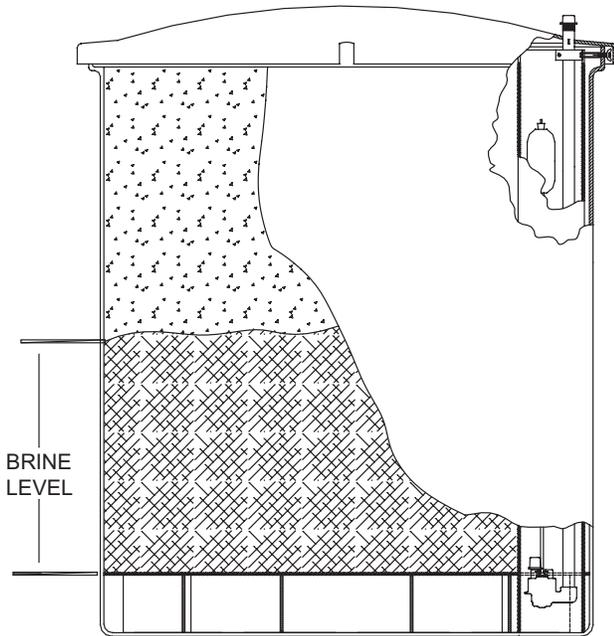

Figure 42. Dry storage.
- Dry Storage - When enough salt is added to the brine tank, so that the salt level is higher than the water level. When the proper amount of water is returned to the salt storage tank during brine refill (see Figure 42).